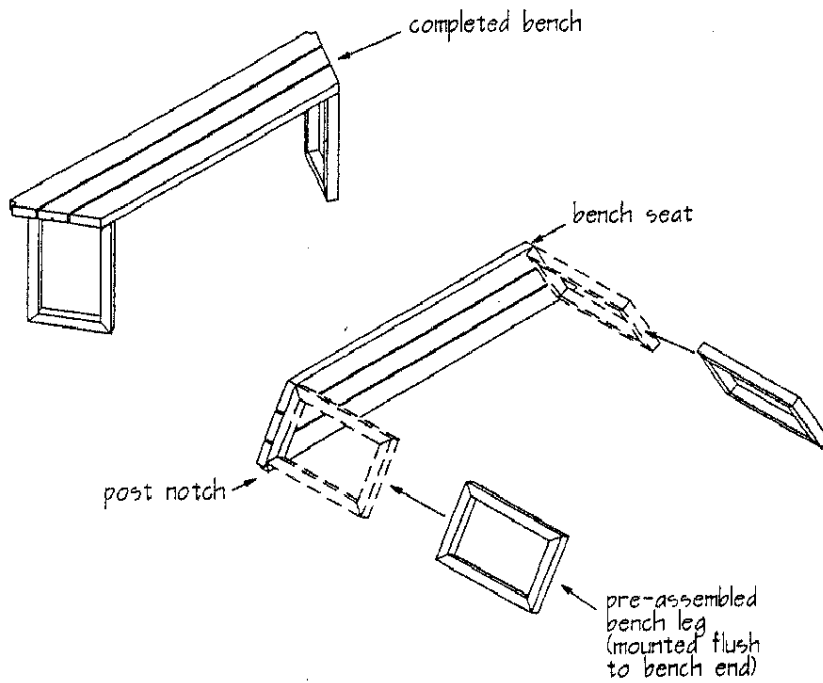

Figure D14
1. The Panelized gazebo comes with 5 Benches. Each Bench has two legs. Attach both sets of legs to the Bench seat using 3" screws. See **Figure D14**.